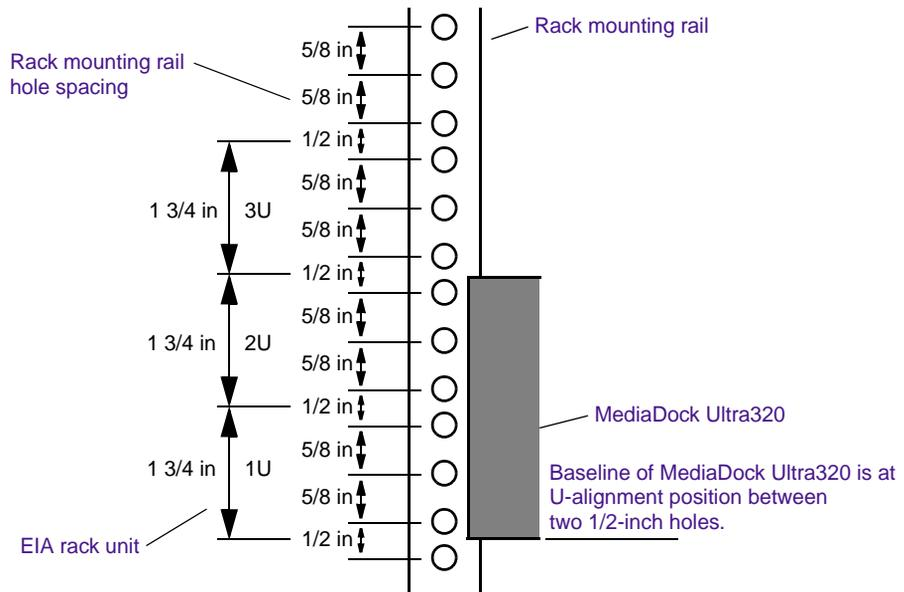

Figure 45 Positioning the MediaDock Ultra320
1. Select the lowest position in the rack where you can mount the MediaDock Ultra320. Position the support rails so the bottom of each rail is at the baseline of a U-alignment position (see Figure 45).